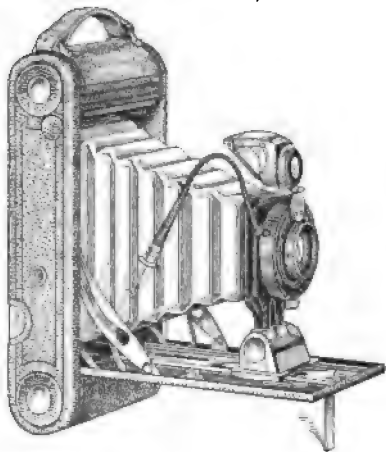

FIG. 40. — Folding camera.
**The camera.** An ordinary focusing kodak (see figures 40 and 41) consists of the following parts: a light-proof box, which may be drawn out in the form of a bellows, a lens in the front end of this, which focuses an image on a film or plate placed at the back of the box. In front of the lens is the diaphragm with an adjustable opening in the center through which the light passes, and the shutter by means of which the exposure is made. On the front is a finder by means of which those objects that will appear in the picture may be seen.